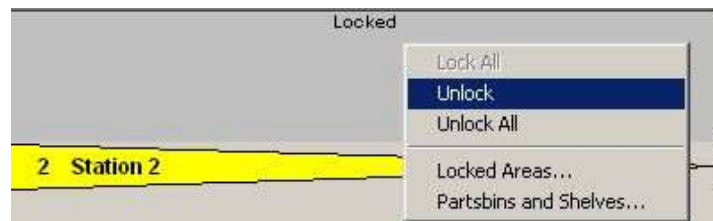

Figure 281: Contextual Menu for Material Supply Area
- Using the menu item **Locked Areas...**, locks single areas of a material supply area. *Please refer to the Figure 281.*